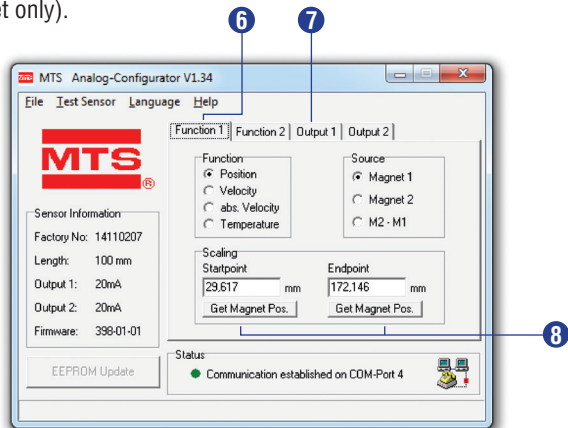

Fig. 32: Example of tab controls
- 6 Via tab **Function 1** you can determine the type of measurement and the **source**. In fig. 32 position measurement with **Magnet 1** is selected. Under **Scaling** you can specify the start- and endpoint of the position measurement.
- 10 Index cards **Function 2**, **Output 2** and the functional reference to the 2nd magnet in field **Source** (fig. 32), are provided only for sensors with two analog outputs.